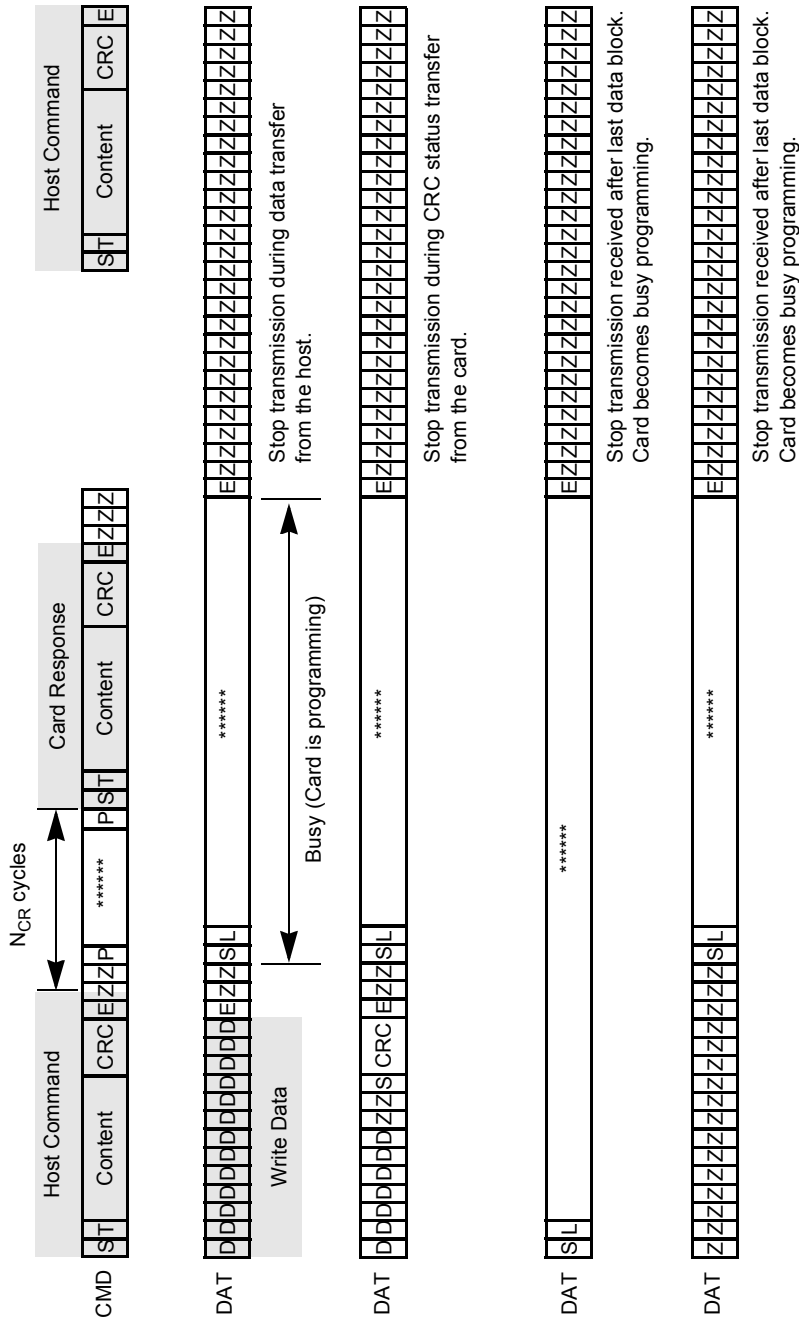

Figure 30. Stop Transmission During Different Scenarios
The card identification and card operation conditions timing are processed in open-drain mode. The card response to the host command starts after exactly  $N_{ID}$  clock cycles. For the card address assignment, SET\_RCA is also processed in the open-drain mode. The minimum delay between the host command and card response is  $N_{CR}$  clock cycles as illustrated in Figure 26. The symbols for Figure 26 through Figure 30 are defined in Table 27.
**Table 27. State Signal Parameters for Figure 26 through Figure 30**
The stop transmission command may occur when the card is in different states. Figure 30 shows the different scenarios on the bus.
Table 28. Timing Values for Figure 26 through Figure 30
**Table 28. Timing Values for Figure 26 through Figure 30 (Continued)**